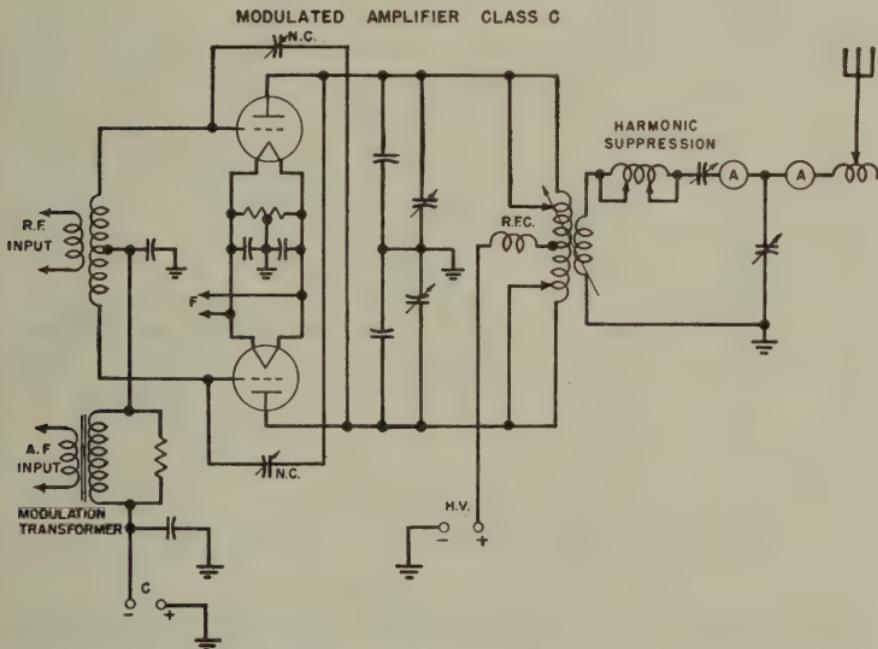

FIG. 4-6.—Grid-bias modulated class C radio-frequency amplifier with inductive coupling to the antenna.
*Ans.* Figure 4-6 illustrates a simple schematic of a grid-bias modulated radio-frequency stage.